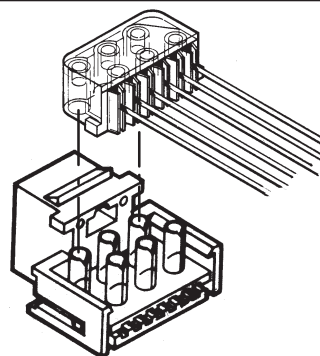

Figure 4
3. Position holes in cap over terminals in jack assembly (Figure 4).